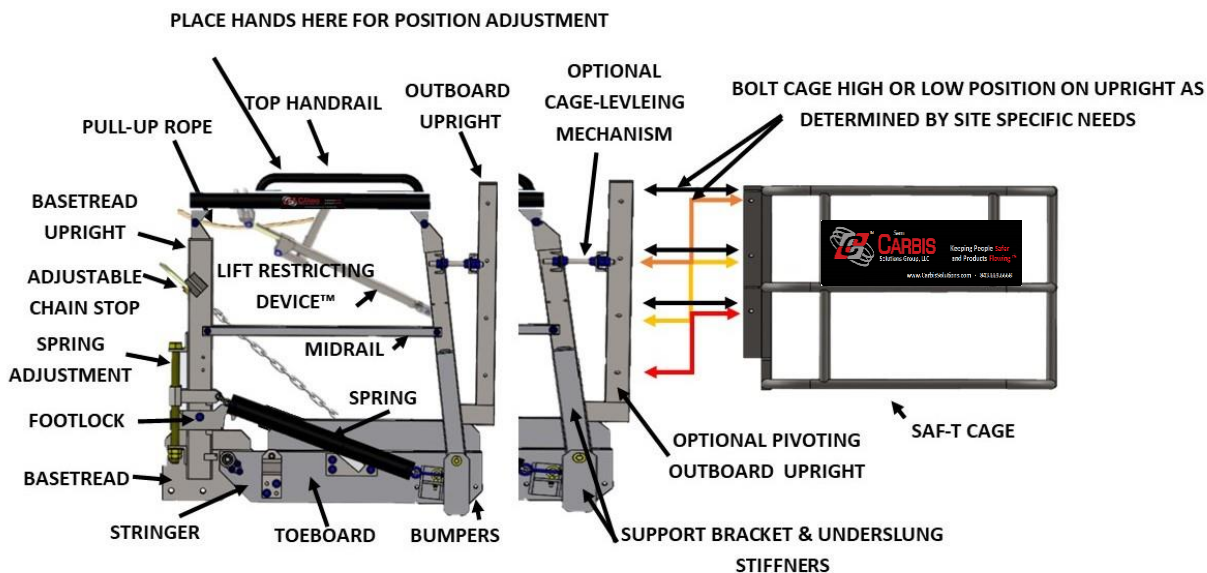

FIGURE 2-3 TCG-1000 GANGWAY WITH OPTIONAL CAGE LEVELING SYSTEM
- 14) Gangways can be equipped with an **optional** pivoting outboard upright and cage leveling mechanism (see **FIGURE 2-3).** Mounted on the upper half of each left and right pivoting outboard upright the cage leveling mechanism consists of back-to-back channels: one on the gangway fixed upright and one on the pivoting upright. Mounted between the channels is a thru threaded rod with a series of back-to-back adjustment nuts and washers on both sides of each channel.
- 1) The SAF-T Cage is either a monolithic or two-piece cage structure bolting directly to the gangway outboard upright. The cage can bolt in either the high or low position as determined by customer site-specific needs for maintaining the required fall protection criteria (see **FIGURE 2-3**).